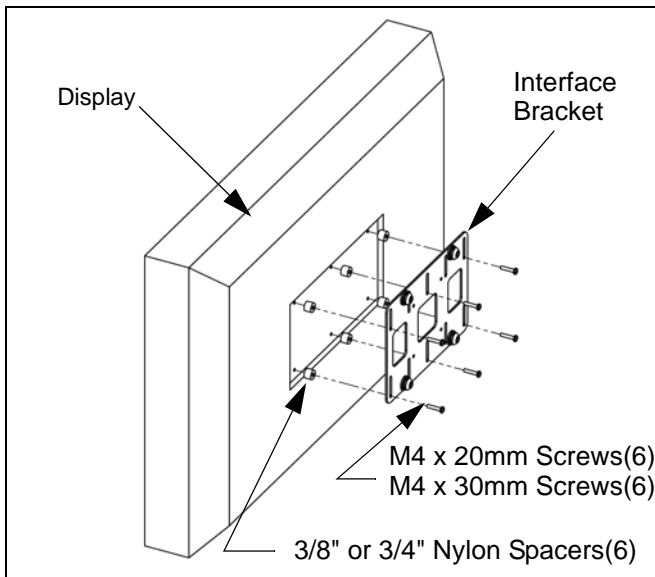

Figure 3:
1. Place four Nylon spacers (3/8" or 3/4" as necessary) over four mounting holes in Display (see Figure 3).
2. Secure the Interface Bracket to the Display using M4 x 20mm or M4 x 30mm screws depending upon spacer used. (see Figure 3).